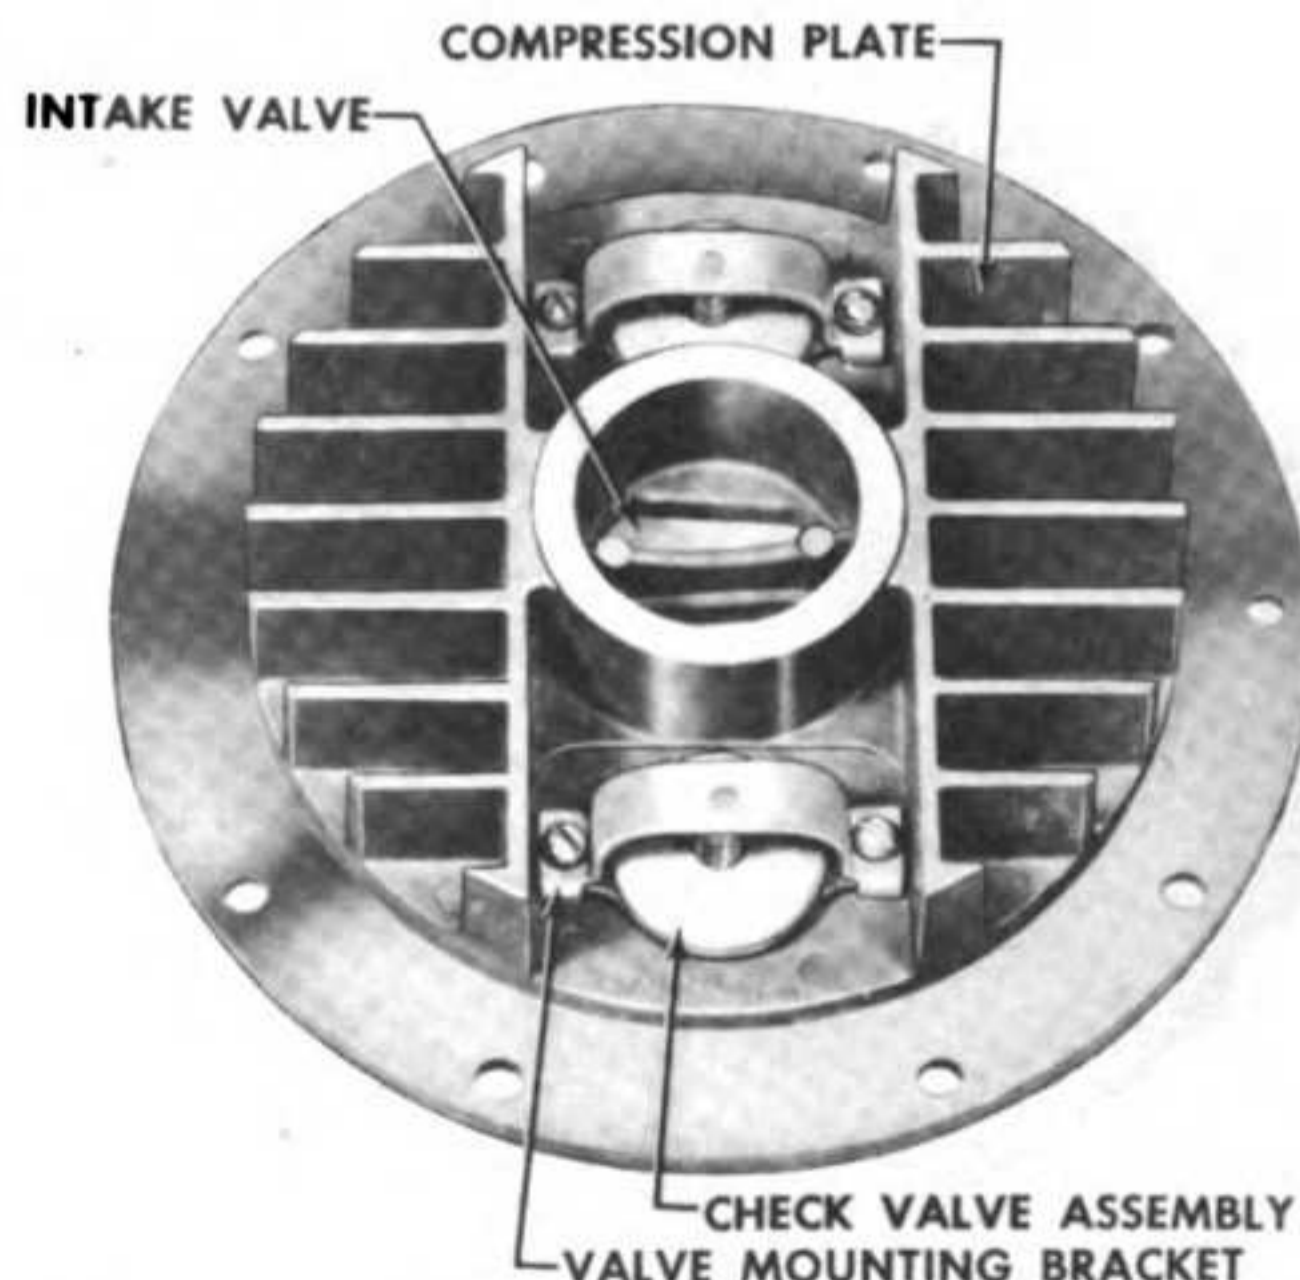

Figure 26—Check Valve Side of Compression Plate
- (1) Remove the manifold. (See paragraph 36.b.)
- (2) Remove the expansion heads. (See paragraph 37.b.)
- (3) Lift off the compression plate. (See figure 26.)